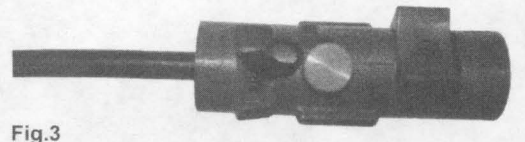

Fig.3
3. Insert cable into Cut #2 end. With gentle pressure, turn tool in a CW direction to engage jacket blade. Turn tool until cable reaches strip stop and continue turning until jacket chip breaks off. (Fig.3)